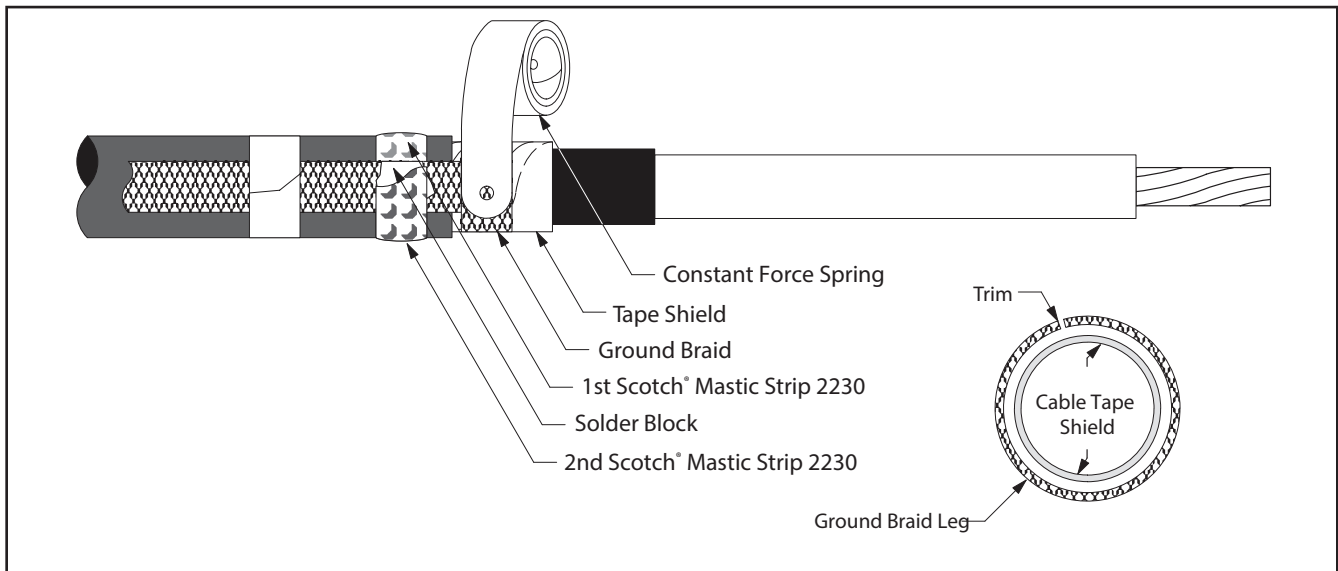

Figure 3
- 3.2 Wrap ground braid around cable tape shield one complete wrap, trim excess to prevent overlap and secure in place with constant force spring. Wrap spring in same direction as ground braid (*Figure 3*). Cinch (tighten) the spring after wrapping the final winding.
- 3.3 Select second Scotch® Mastic Strip 2230 from kit and remove white release liners. Apply a second **SINGLE WRAP** of mastic over solder block on ground braid and previously applied mastic (*Figure 3*). Cut off excess.